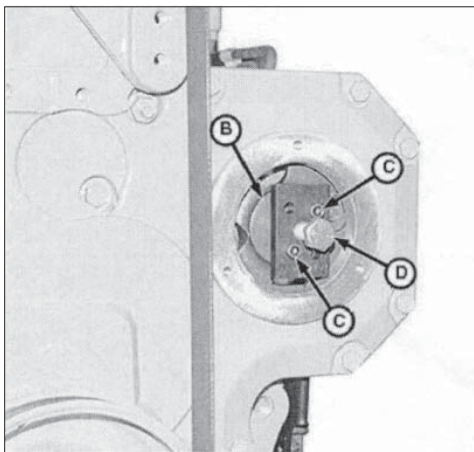

Figure 20 Reproduced by permission of Deere & Company, c.2004. Deere & Company. All reserved.
5. Attach the drive gear puller (JDG1560) to the injection pump drive gear (Fig. 20 B) using two screws (C). Tighten the screws evenly and tighten the center forcing screw (D) against the end of the pump shaft.
6. Tighten the center forcing screw (Fig. 20 D) until the pump drive gear is free from the tapered shaft. Then remove the puller (JDG1560) from the drive gear.